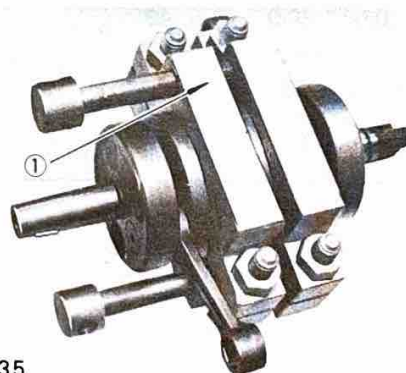

Fig. 3-135
3. Fig. 3-135 shows the tools installed on the crankshaft assembly.